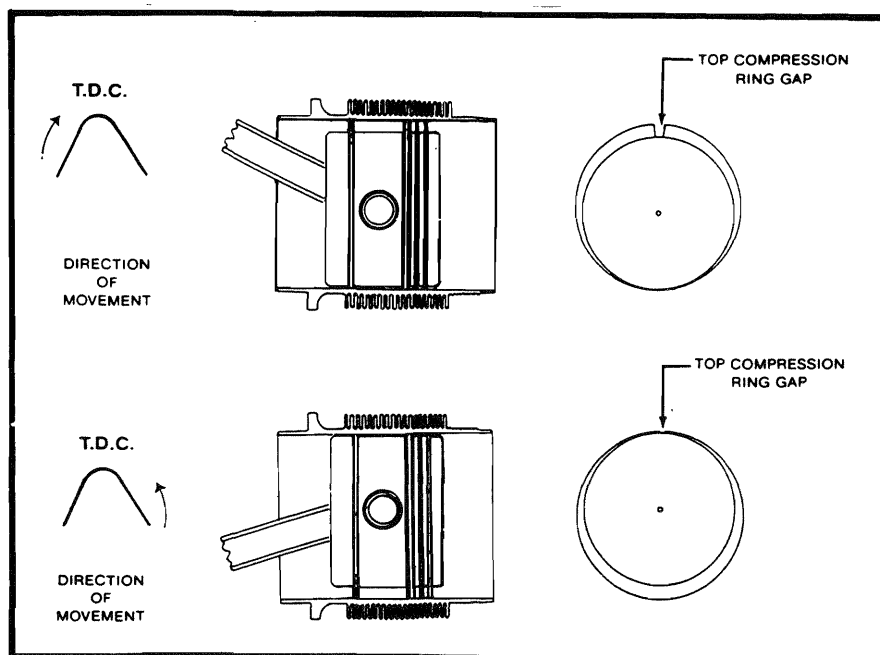

FIGURE 8-5.
12. If the leakage is below the previously determined low cylinder gage reading, loss past the dynamic seal may be due to piston ring end gap alignment or by the piston and piston rings' angular direction in the cylinder bore (Figure 8-5). First assure that the piston and piston rings are centered. This may be accomplished by reducing regulator pressure to 20 p.s.i. and working piston through TDC several times, bringing the piston to TDC in the normal direction of engine rotation. Adjust regulated pressure to 80 p.s.i. and determine amount of loss. If the gage reading is higher than the previously determined master orifice calibrated reading, proceed to next cylinder to be tested.
NOTE...Piston ring rotation within the ring land is a normal design characteristic. As illustrated in Figure 8-5, the compression ring location may have a direct bearing on the dynamic seal pressure check. Therefore, we suggest you complete the test in the opposite direction if readings are below prescribed limits.